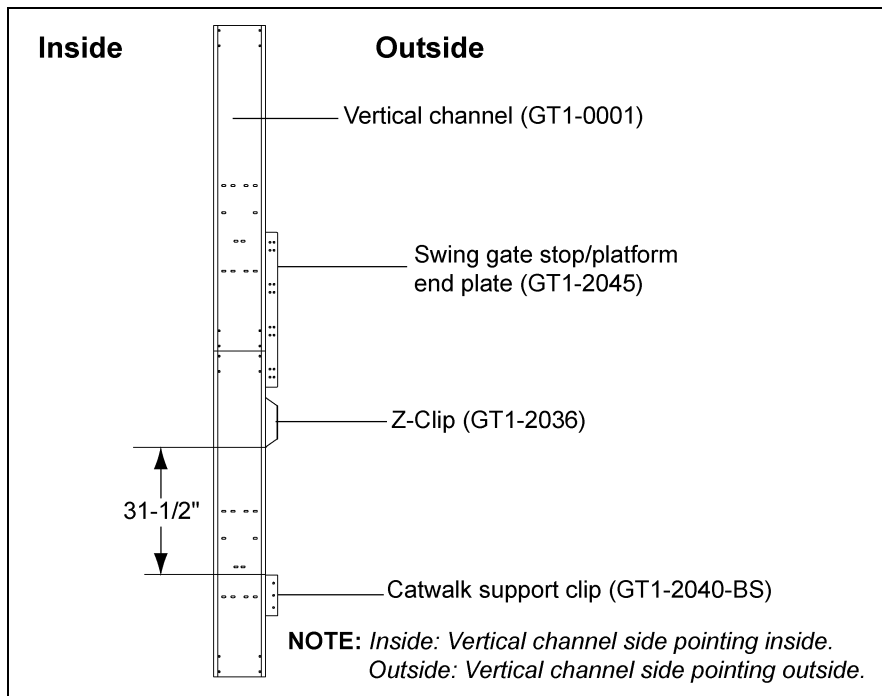
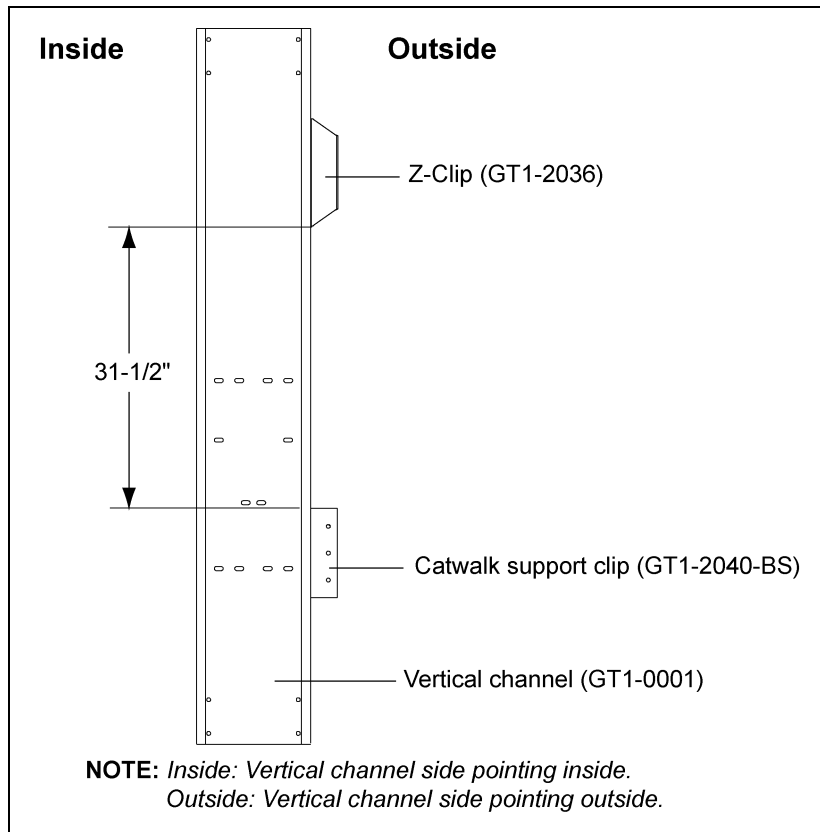

Figure 6H
Figure 6J
2. The distance between the Z-clip and support clip for 24' offset and roof hatch platform is 31-1/2". (See Figure 6H below and Figure 6J on Page 50.)